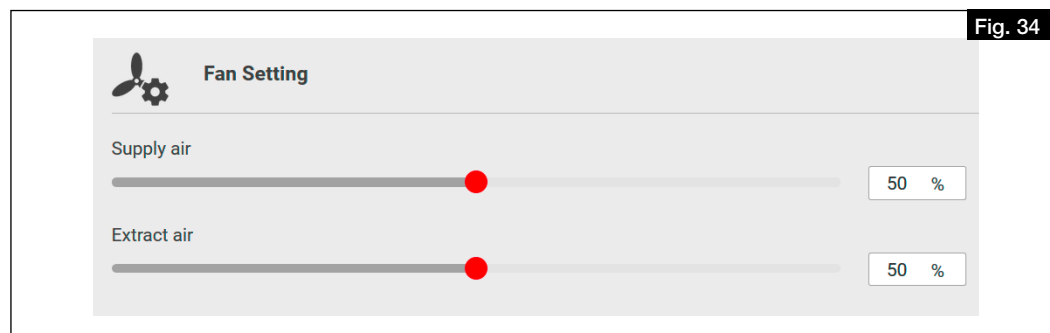

Fig. 34
5. Enter the fan powers for supply and extract air according to the determined values for nominal ventilation under “Fan setting” (cf. Fig. 34).